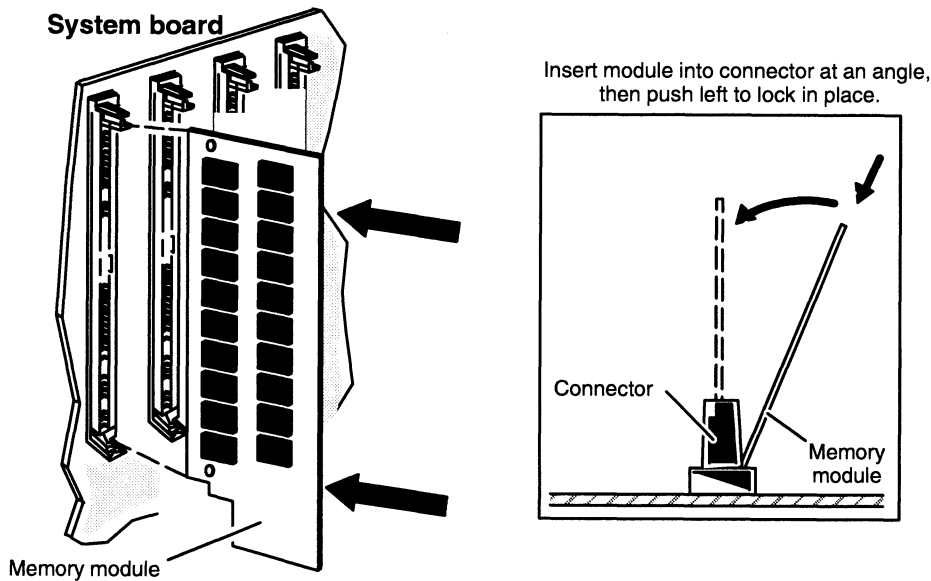

Figure 8-6 Installing the Memory Module in the Connector
2. Position the memory module in the connector at approximately a 20° – 30° angle as shown in Figure 8-6, and then *gently* push the top of the module left towards the perpendicular. You will hear a click as each connector tab locks the module into place.